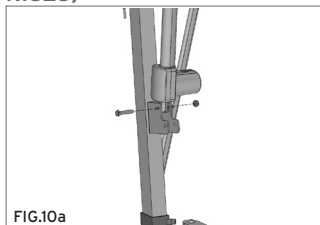

FIG.10a
1. Remove the bolts prepared from the arm and from the column holes for the actuator fixing. Fit the actuator in the correct position and fix it using the bolts previously removed. (Fig.10a-10b)